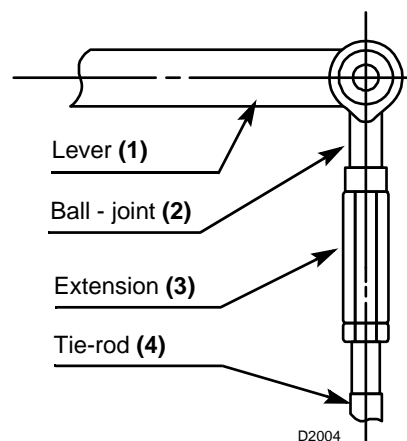

Fig. 14
- detach ball-joint 2) (Fig. 14) from lever 1);